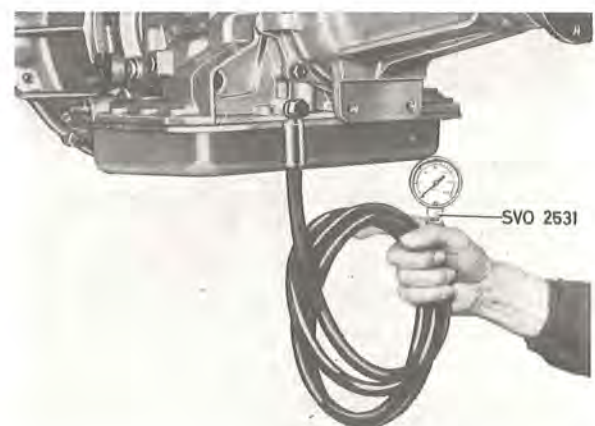

Fig. 4-71. Connecting manometer
1. Connect a tachometer to the engine and manometer to the transmission as shown in Fig. 4-71.